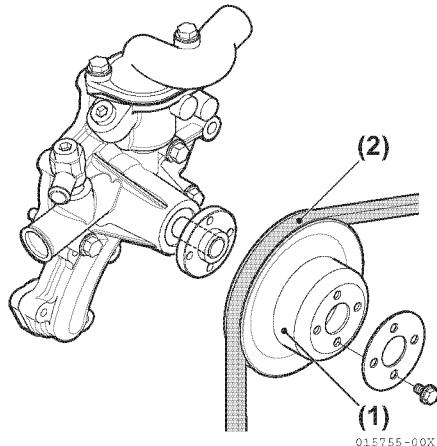

Figure 6-53
2. Remove the spacer, V-pulley (Figure 6-53, (1)) and cooling fan V-belt (Figure 6-53, (2)).